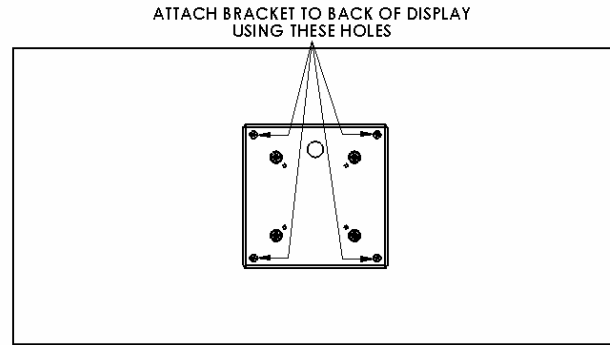

Figure 4
2. Place nylon spacers on mounting holes, aligning hole pattern on brackets with pattern on back of display (see Figure 3 and Figure 4).